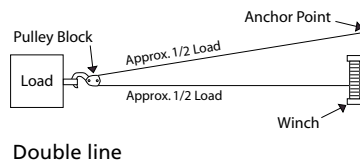

Figure 4
2. FOR LARGER LOADS, THE USE OF A PULLEY BLOCK AND HOOK ASSEMBLY TO DOUBLE LINE WIRE ROPE IS RECOMMENDED (See Figure 4). This reduces load on the winch and strain on the wire rope by approximately 50%. Do not hook back to winch. Always secure hook back to a point that is strong enough to carry the load.